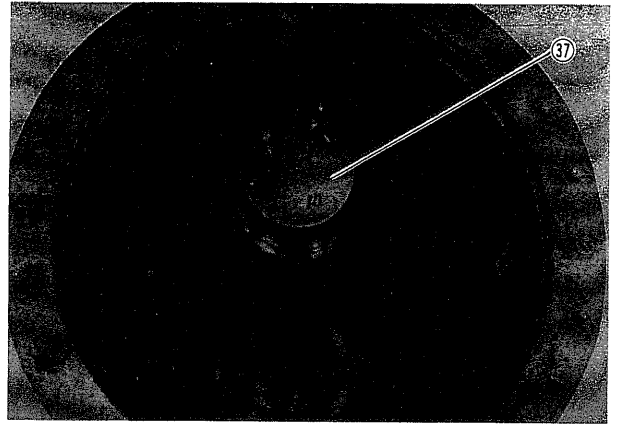

Fig. 79
- 1) SV91T. . . . . Pull off eccentric shaft (37) . Reverse roll. (Fig. 79)